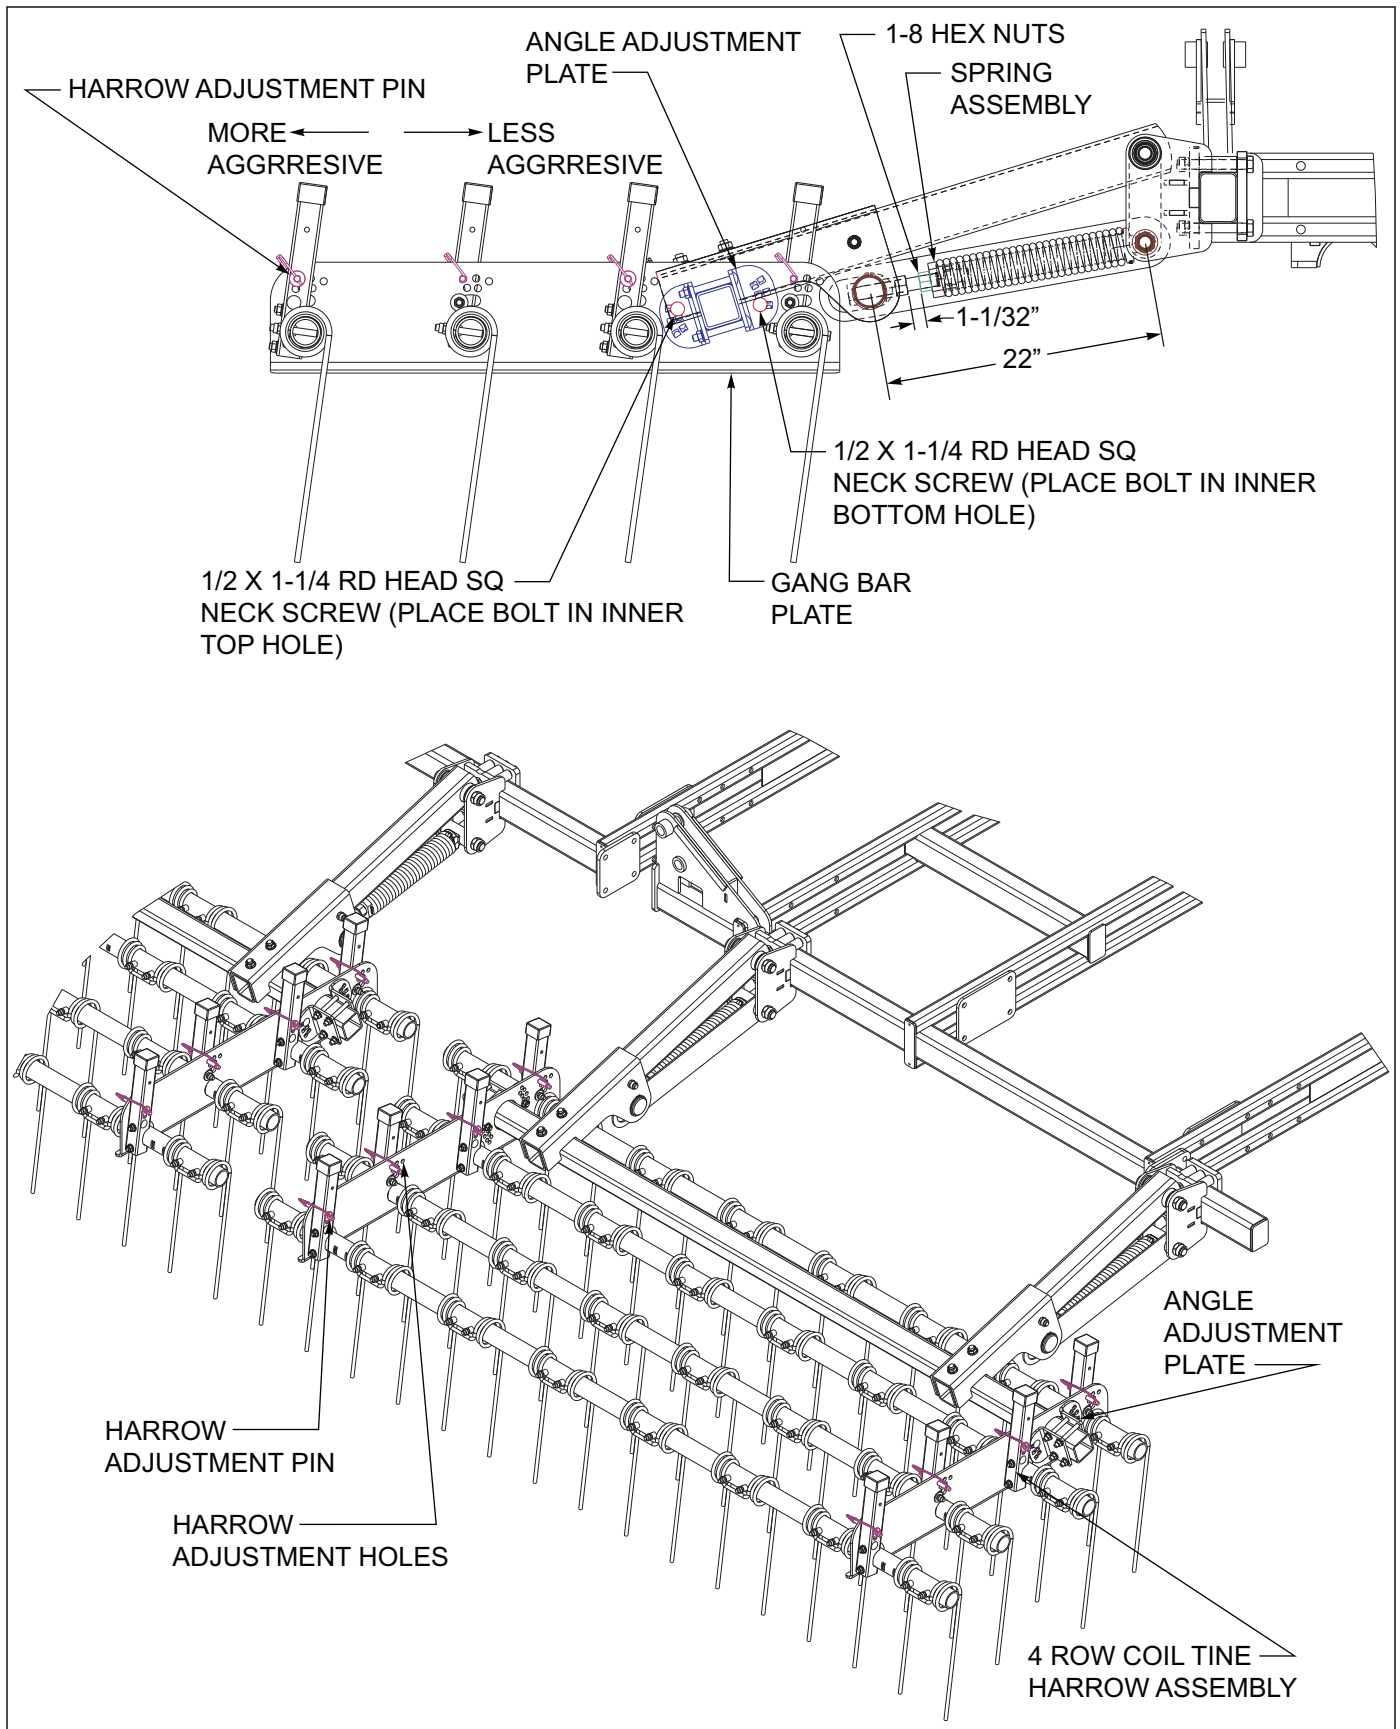

Figure 4-13: 4 Row Coil Tine Adjustment
2. In general tine harrows have better capabilities for handling more residue and wetter conditions. When operating the coil tine harrow, a more vertical tine tooth angle will make the harrow more aggressive. A lower/flatter tine angle will make the harrow less aggressive but will handle more residue and wetter conditions. To change the tine angle, raise the harrow off the ground. Remove the harrow pin from both angle adjustment tubes per tine gang bar tube See Figure 4-13. Rotate the angle adjustment tubes forward (less aggressive) or rearward (more aggressive) and reinstall both spring clip pins. Repeat the tine adjustment for each tine gangbar tube and harrow section.
3. The initial setting for the spring assembly should be 22". Each harrow section may also be adjusted for operating height. To change the harrow height See Figure 4-13, loosen both 1-8 hex nuts. Raise or lower the harrow arm by turning the bolt head for the spring adjustment bolt. Then re-tighten the 1-8 hex nuts. When initially setting the harrow height, the bottom tips of the tine tooth (pulled back at the desired tooth angle) should be approximately level with the field cultivator sweeps.